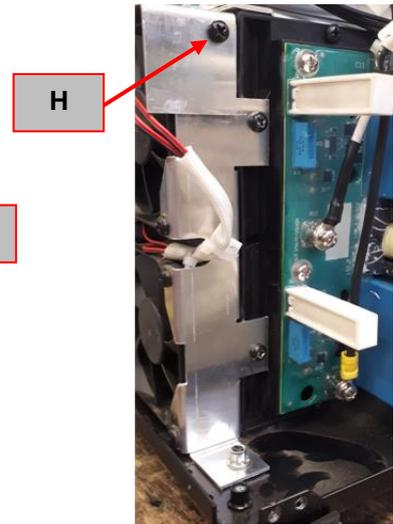

Figure 49
13. Using the PH02 screwdriver remove the screw (H). See **Figure 49**